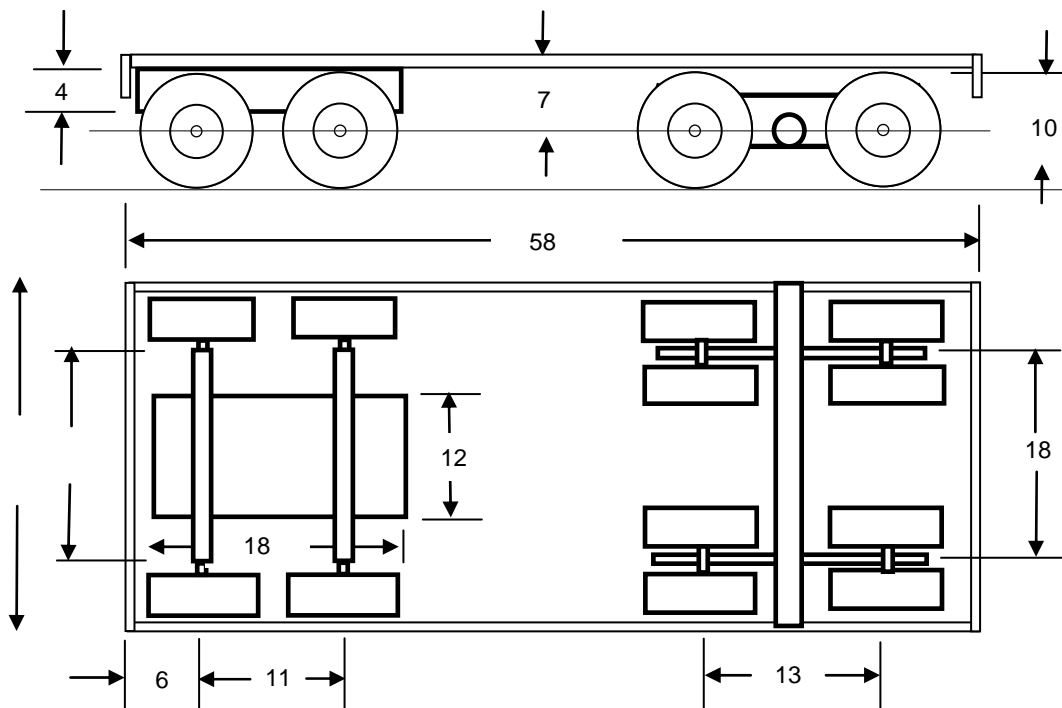
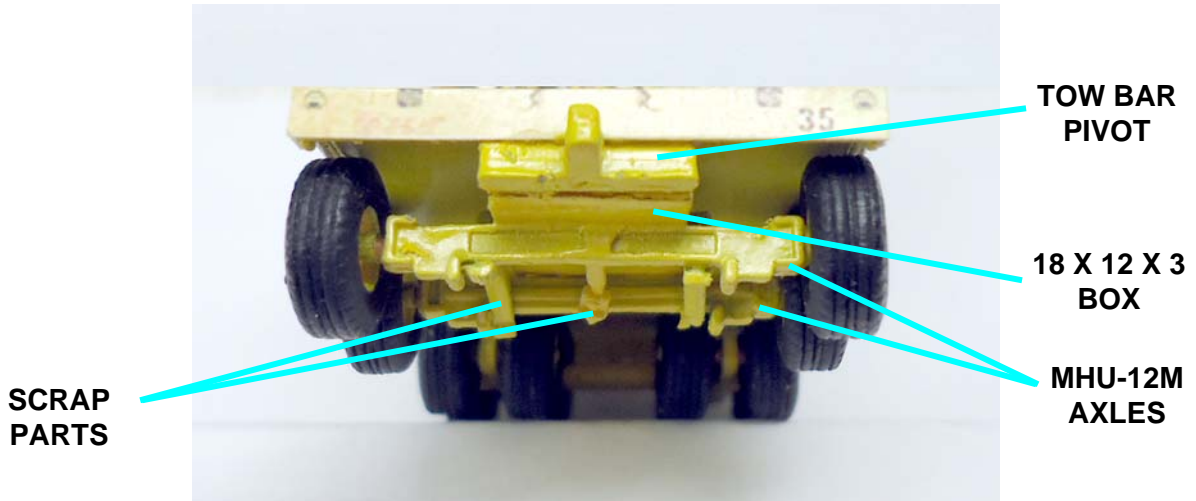

Figure 16. Undercarriage Dimensions
Figure 18. Steering Assembly Detail
My model's undercarriage consists of a 4 steering wheels in the front and two 4-wheel bogies in the rear. Figure 16 shows the critical dimensions of the undercarriage.
My steering assembly is based on an 18 mm x 12 mm x 3.5 mm box as shown in Figure 16. To this box I glued the axels from an MHU-12M Ammunition Trailer in the Hasegawa US Weapon Loading Set (#35005).
- 9) Glue the completed axles to the steering box so that their centers are 11 mm apart, as shown in Figure 16 and Figure 18.